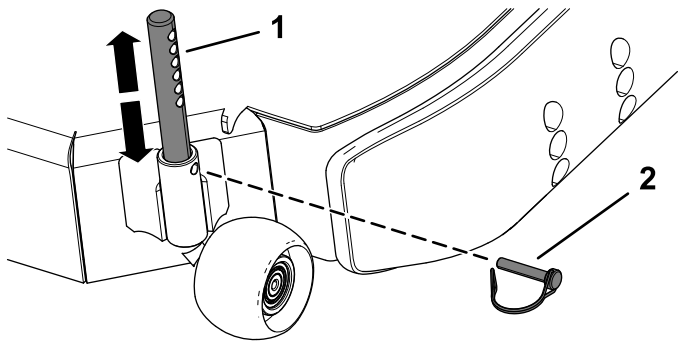

Figure 32
4. Remove the lock pin from the roller pin (Figure 32).
5. Move the roller pin up or down to the desired position and secure it with the lock pin (Figure 32).